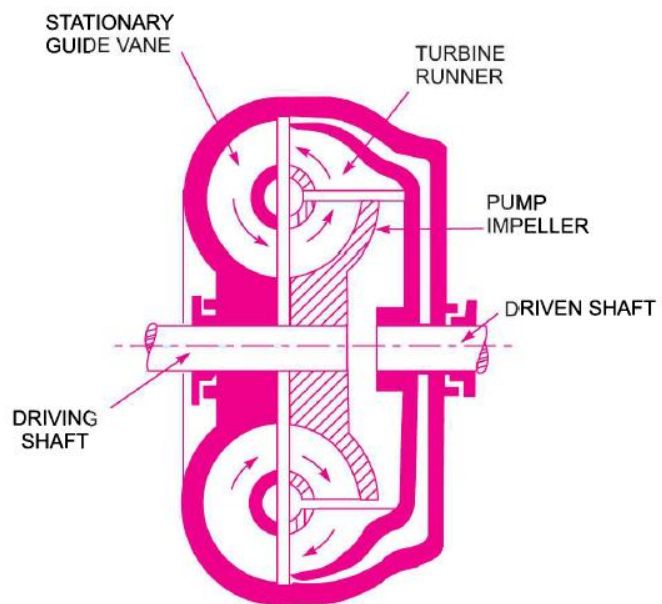

Fig.10.9 –Hydraulic Torque Converter
- ▶ In a torque converter, a stationary guide vane (stator) is incorporated between the pump impeller and the turbine rotor as shown in Fig.10.9.